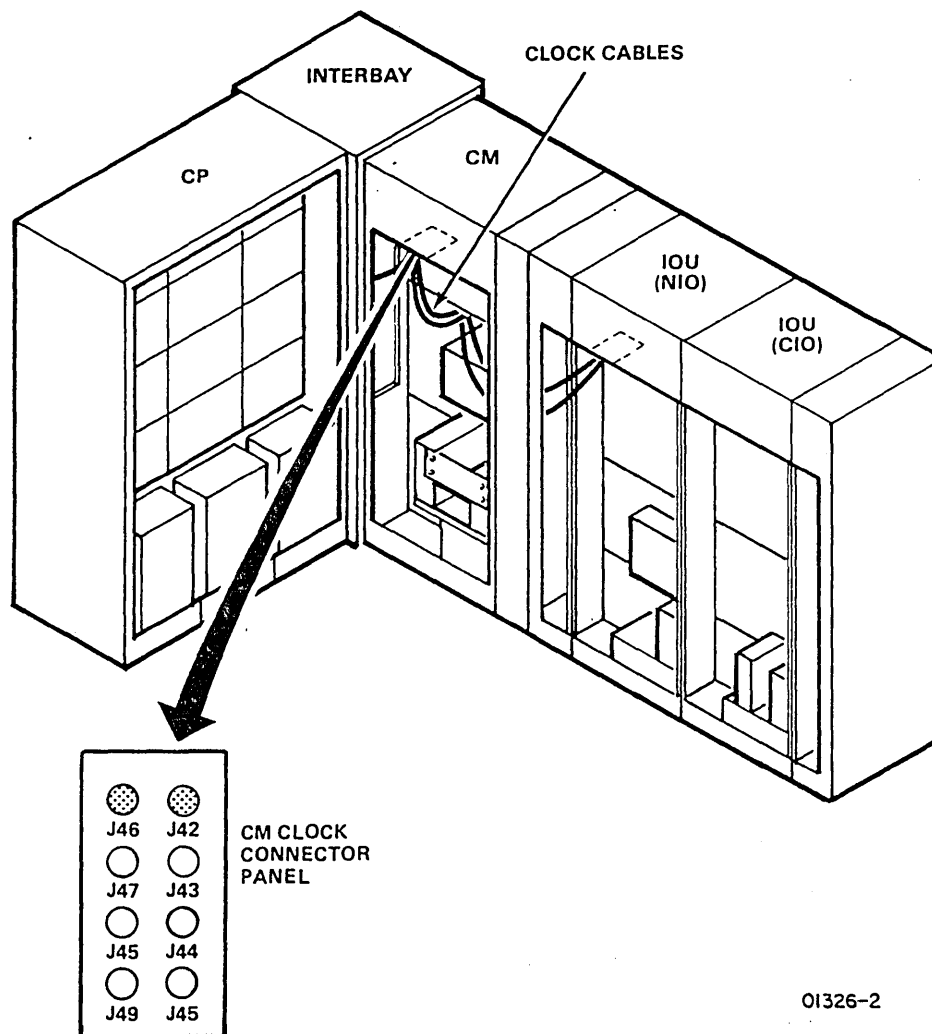

Figure 4-9. Clock Cable Connections
- ___ 4. Route and connect cables to J42 and J46 on CM clock connector panel (figure 4-9).